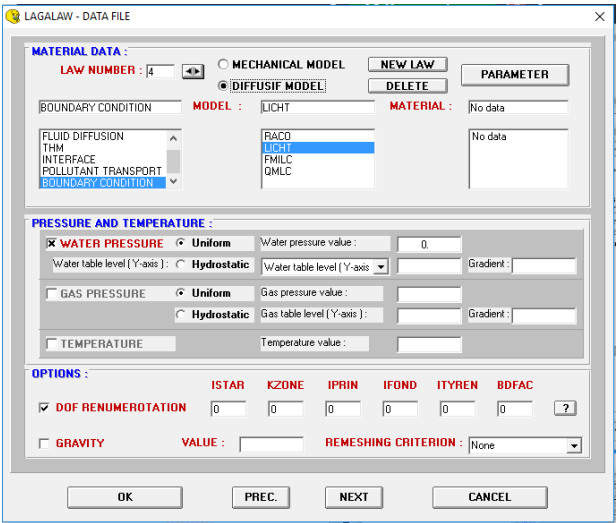
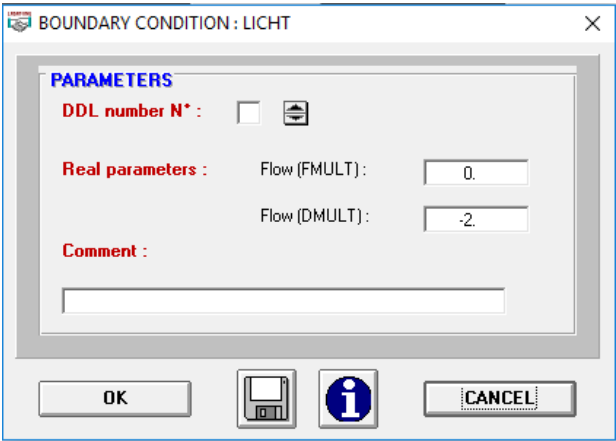

Figure 7.6 Selection of the flow law in LAGALAW.
Figure 7.7 Configuration of the flux law in LAGALAW.
- The flow law for the *LICHT* element is also defined LAGALAW by selecting *Diffusive model*, and then *Boundary condition* with the model *LICHT* (Figure 7.6). Click on the button Parameter to set up the flux law (figure 7.7). The flow is given per unit surface. An outgoing flow is considered as positive and an entering flow is considered as negative. During the non linear analysis, *FMULT* will be multiplied by the force multiplier *ALAMBF* while *DMULT* will be multiplied by the displacement multiplier *ALAMBD*.